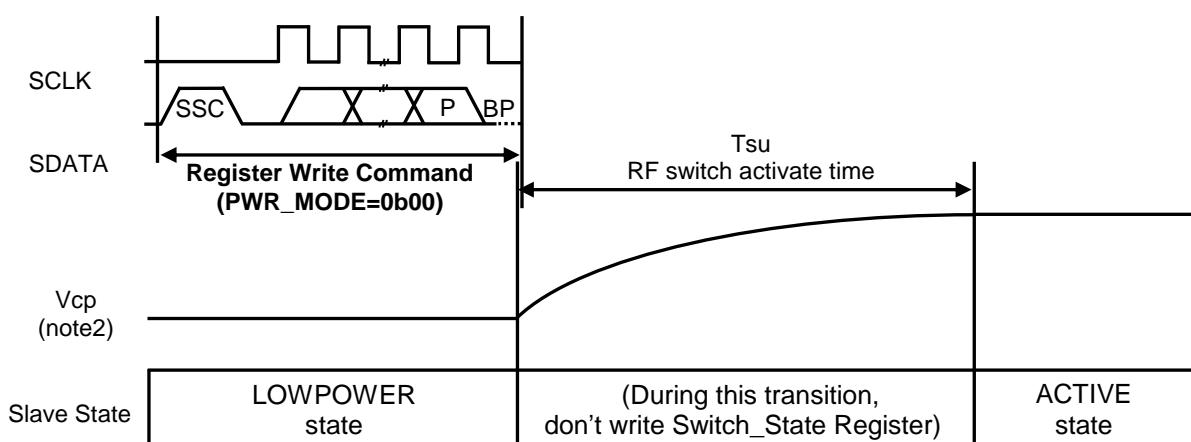

**Figure 4. Slave State Diagram**
- Figure 4, 5 and Table4 describes the RFASWE660DTF03 has four operating states.
The RFASWE660DTF03 has four operating states, which are ACTIVE, SHUTDOWN, STATUP and LOW POWER. The transitions between these four states are set writing the PWR\_MODE register or VIO as shown in Figure 4. The internal circuit operations in each operating state are shown in Table 4.